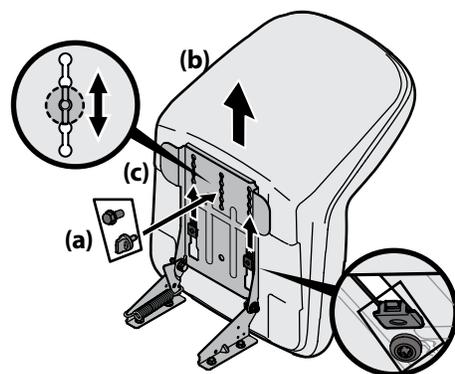

Figure 2-6
- Slide the seat (b) rearward in the seat pivot bracket (c), lining up the center rear slot in the seat pivot bracket (c) with the remaining hole in the seat (b) base. See Figure 2-6.
**Note:** Be certain the two seat tabs (square or round) engage the seat pivot bracket as shown in the bottom right inset of Figure 2-6.
- Select the desired position for the seat (b), and secure with the adjustment knob/bolt (a) removed in Step 1. See Figure 2-6.
- To adjust the position of the seat, remove the adjustment knob/bolt (a) on the bottom of the seat (b). Slide the seat (b) forward or backward as desired. Reinstall the adjustment knob (a). See Figure 2-6.